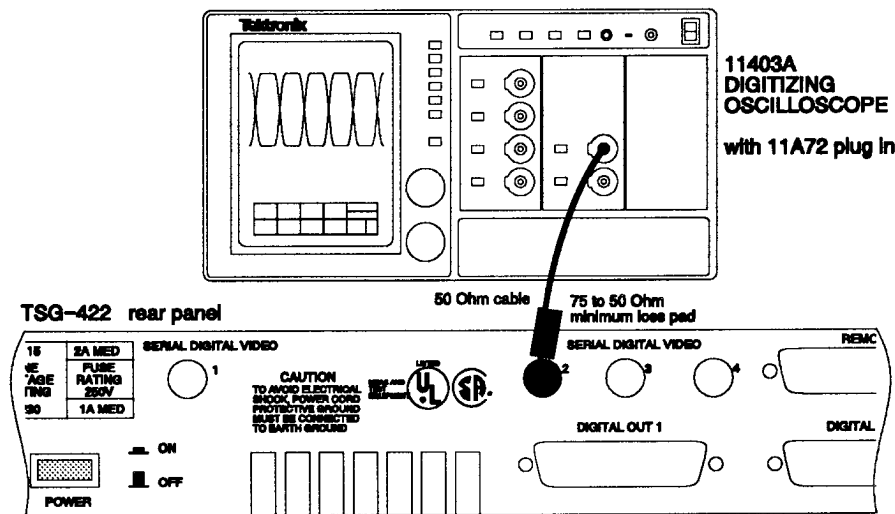

Fig. A-8. Setup to check the Serial Digital Output: Amplitude, Rise & Fall Times, Overshoot & Undershoot, and DC Level.
- d. In the **WAVEFORM HORIZONTAL DESC** menu, set the **Display Type** to: **VARIABLE PERSISTENT**. This adjustment should result in the outline of the eye pattern displayed on the screen. The eye pattern should be similar to Fig. A-8.